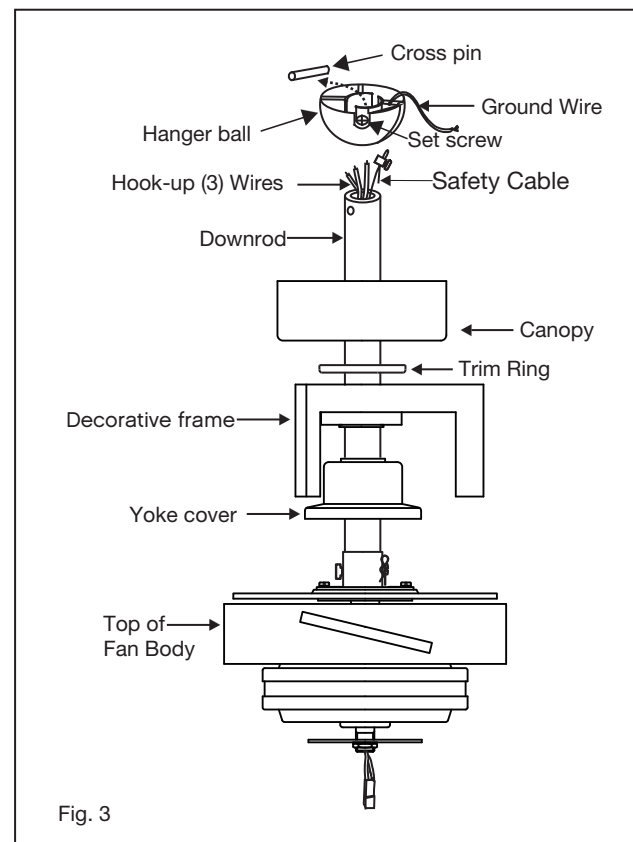

Fig. 3
- 1 Slip the yoke cover, decorative frame, trim ring and canopy onto the downrod. (Fig. 3)
- 1 Remove the existing wall plate and old switch from the wall outlet box. (Fig. 3)